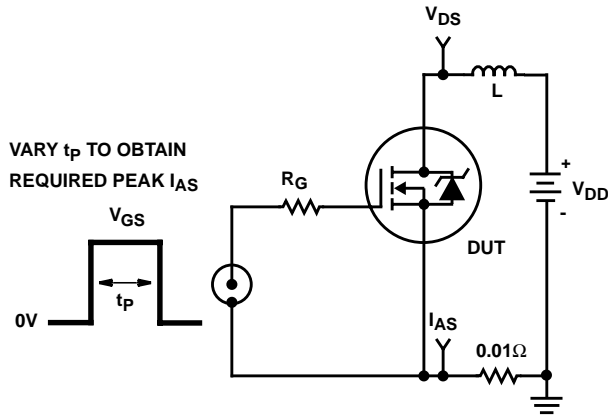

FIGURE 14. UNCLAMPED ENERGY TEST CIRCUIT
4.  $V_{DD} = 10\text{V}$ ,  $T_J = 25^\circ\text{C}$ ,  $L = 820\mu\text{H}$ ,  $I_{PEAK} = 14\text{A}$ . (See Figures 14 and 15).